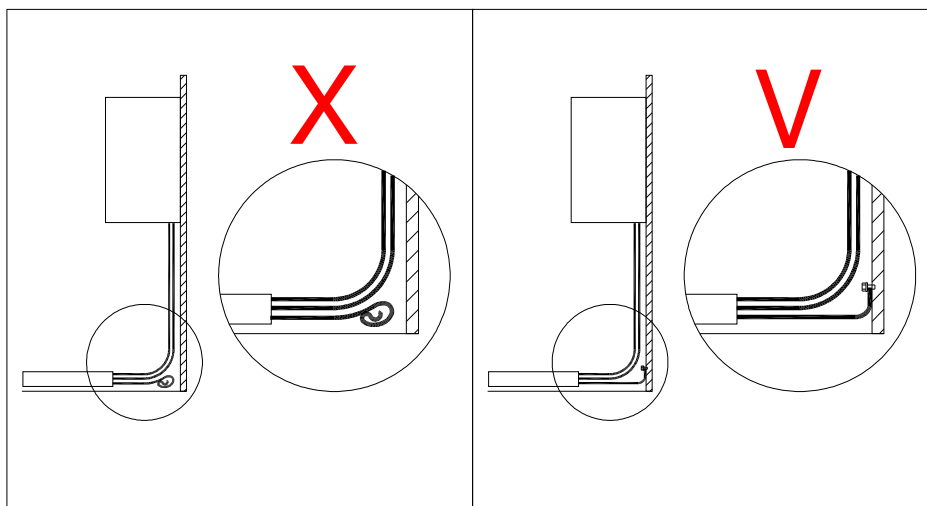

Figure 1.6.5-1: Grounding the both end of the excess wires to avoid floating.
- 1.6.5 Please remove excess wires or ground them at both ends to avoid floating, as shown in Figure 1.6.5-1.